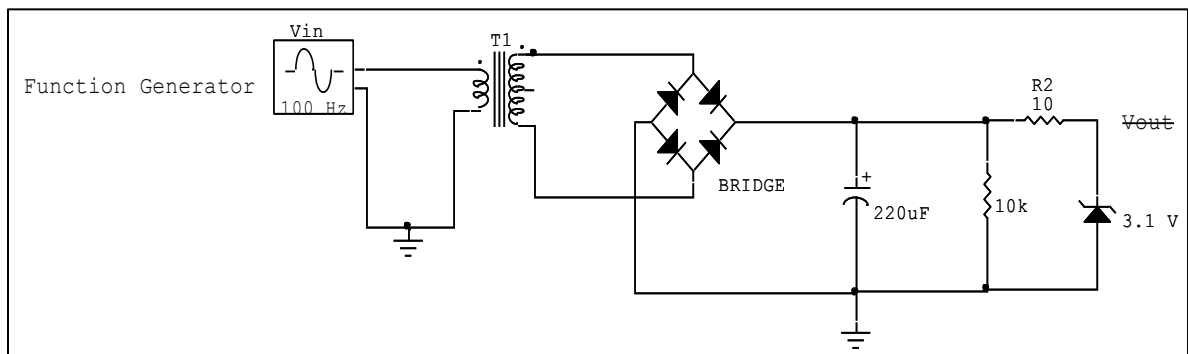

Figure 4: Regulated Full wave circuit
8. Now, connect the following circuit in figure 4.